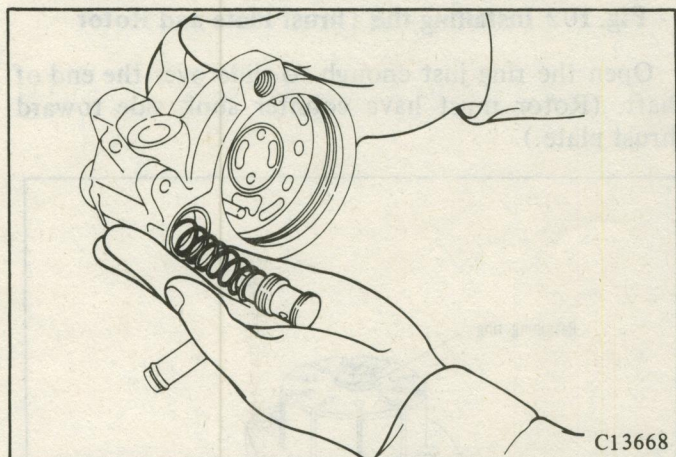

Fig. 98 Removing the Flow Control Valve
(6) Remove pump from vise and invert. Flow control valve and valve spring will fall free. (Fig. 98)